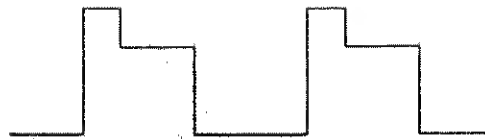

Figure 2.1.4
- i. If the input power to the load exceeds the maximum allowable input power (150 W) while operating in the Switching mode, the Overpower Protector will trip. The switched current in this case will be as shown in Figure 2.1.4. As the wave shape indicates, when excessive power is applied, the Load will limit current to 30 A for the majority of the time that the 150 W limit is exceeded. Erroneous meter readings will result as well.